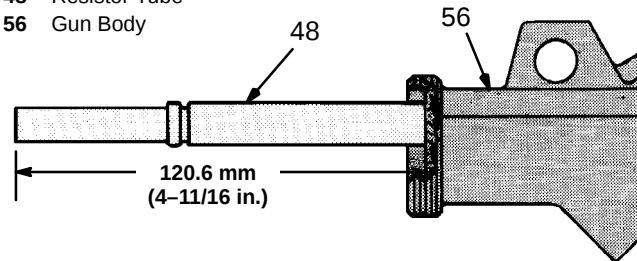

Fig 14
4. Remove the retainer (52).
5. Pull the resistor tube (48) from the front part of the gun body (56).
6. Push the new resistor tube into the gun body. The resistor tube should protrude 120.6 mm (4-11/16 in.) from the top of the gun body (56). See Fig 14.